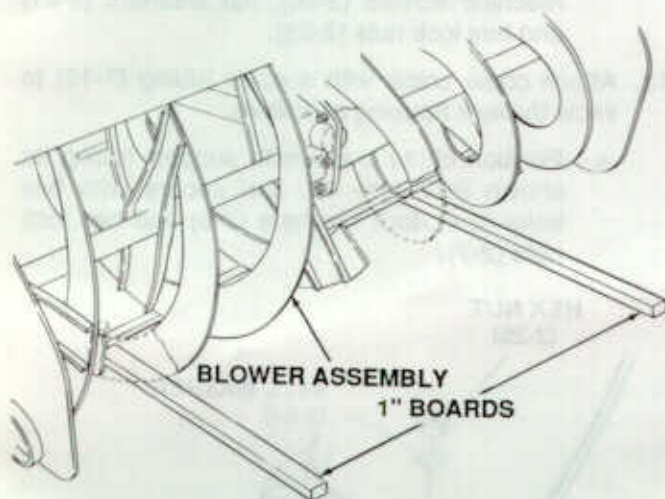

Figure 34
9. Place two 1 inch boards under blower as shown in Figure 34 and make sure lift bracket is in lowest position.